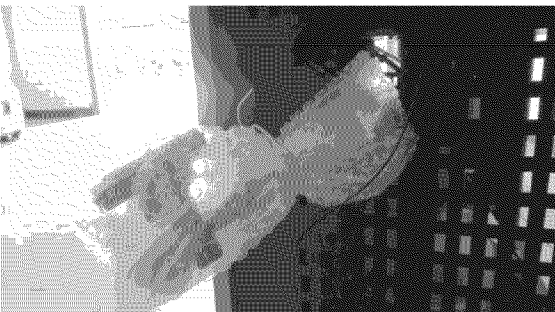
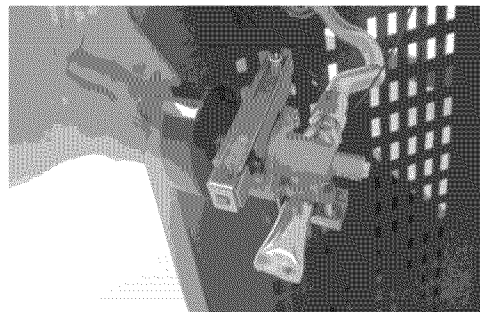

Fig. 11c
Fig. 11d
3. Pull the side burner valve with knob through the hole in the right-side panel as shown in **Fig. 11c** and remove the packing material as shown in **Fig. 11d**.
4. Remove knob from side burner valve. To remove, pull knob straight out from valve stem as shown in **Fig. 11d**.